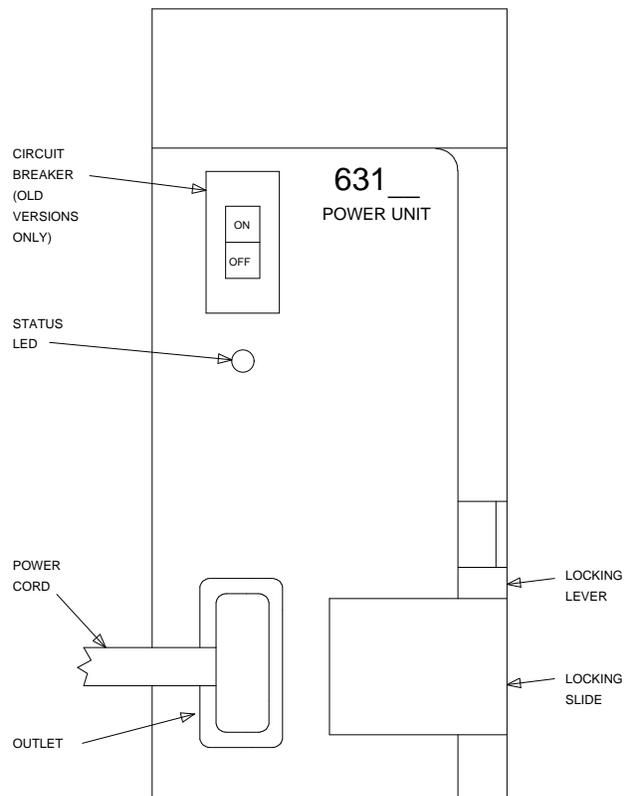

Figure 7-8. 631-Type Power Unit
13. Connect the power cords to the power units. The power cords are the white cables equipped with plugs that are run through the slots in the front of each carrier (see Figure 7-8).